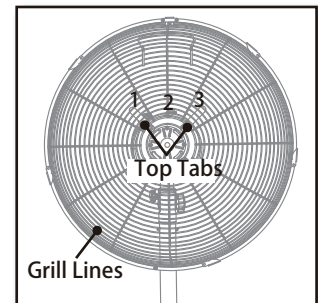

Figure 8
10. Make sure the rear grill is positioned so that three of the grill lines are completely between the top tabs, Figure 8. Then place the rear grill against the motor housing, and line up the four tabs on the back of the grill to the four screw holes on the front of the motor.